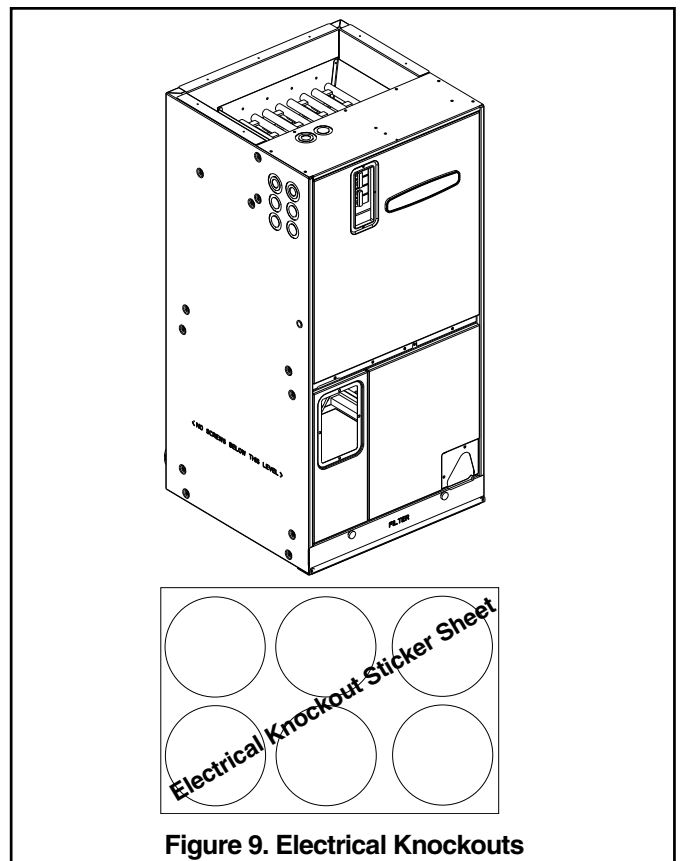

Figure 9. Electrical Knockouts
6. **Openings where field wiring enters the cabinet must be completely sealed.** Location of power entry is shown on the outline drawing. Use 2.5" clear stickers to seal all unused electrical knockouts. See Figure 9.
9. **Openings where field wiring enters the cabinet must be completely sealed.** Location of power entry is shown on the outline drawing. Use 2.5" clear stickers to seal all unused electrical knockouts. See Figure 9.
If an electric heater is not installed, the installer MUST seal opening with a sheet metal plate made per Figure 1 and the Knockout Plate provided in the Accessory Kit MUST be installed on the air handler and the conduit terminated to it. The electrical connections are made using the two power leads and ground wire connections which are located near the discharge of the blower. **Openings where field wiring enters the cabinet must be completely sealed.** Location of power entry is shown on the outline drawing. Use 2.5" clear stickers to seal all unused electrical knockouts. See Figure 9.